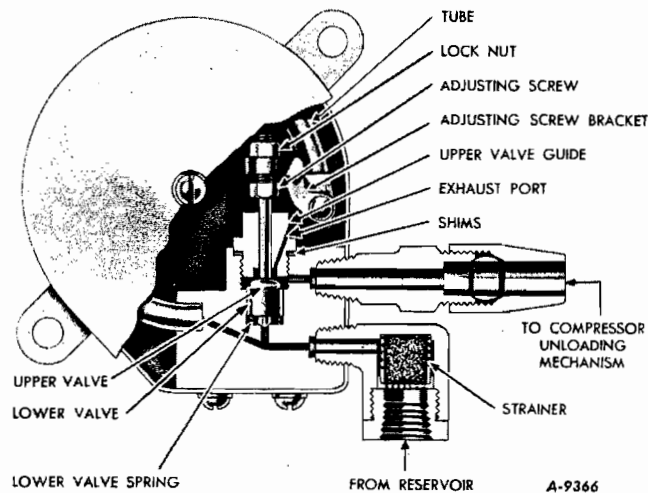

Fig. 9 - Sectional View Of Governor.
The design of the compressor governor is based on the principle of a Bourdon tube which is a flattened metal tube bent to a curve that tends to straighten under internal pressure (Fig. 9). This reaction by the tube, due to changes in the air pressure in the tube, increases or decreases the spring load on the valve mechanism of the governor and makes the valve mechanism assume its "cut-in" or "cut out" positions in accordance with the air pressure in the reservoir. Two types of governor cases will be found in service, one being a die cast case and the other a pressed steel case. Both types of cases are interchangeable with each other and the working parts of the governor used in both types of cases are identical.
4. When necessary, the pressure settings (cut-in and cut-out pressures) may be adjusted after removing the cover. The pressure settings are raised by loosening the adjusting screw lock nut and turning the adjusting screw clockwise viewed from the top (Fig. 9). Pressure settings may be lowered by turning the adjusting screw counterclockwise. The lock nut must be tightened after any adjustment.
6. Adjustment of the range between the cut-in and cut-out pressure is made by removing shims beneath the upper valve guide (Fig. 9) to increase the range or by installing additional shims to decrease the range.